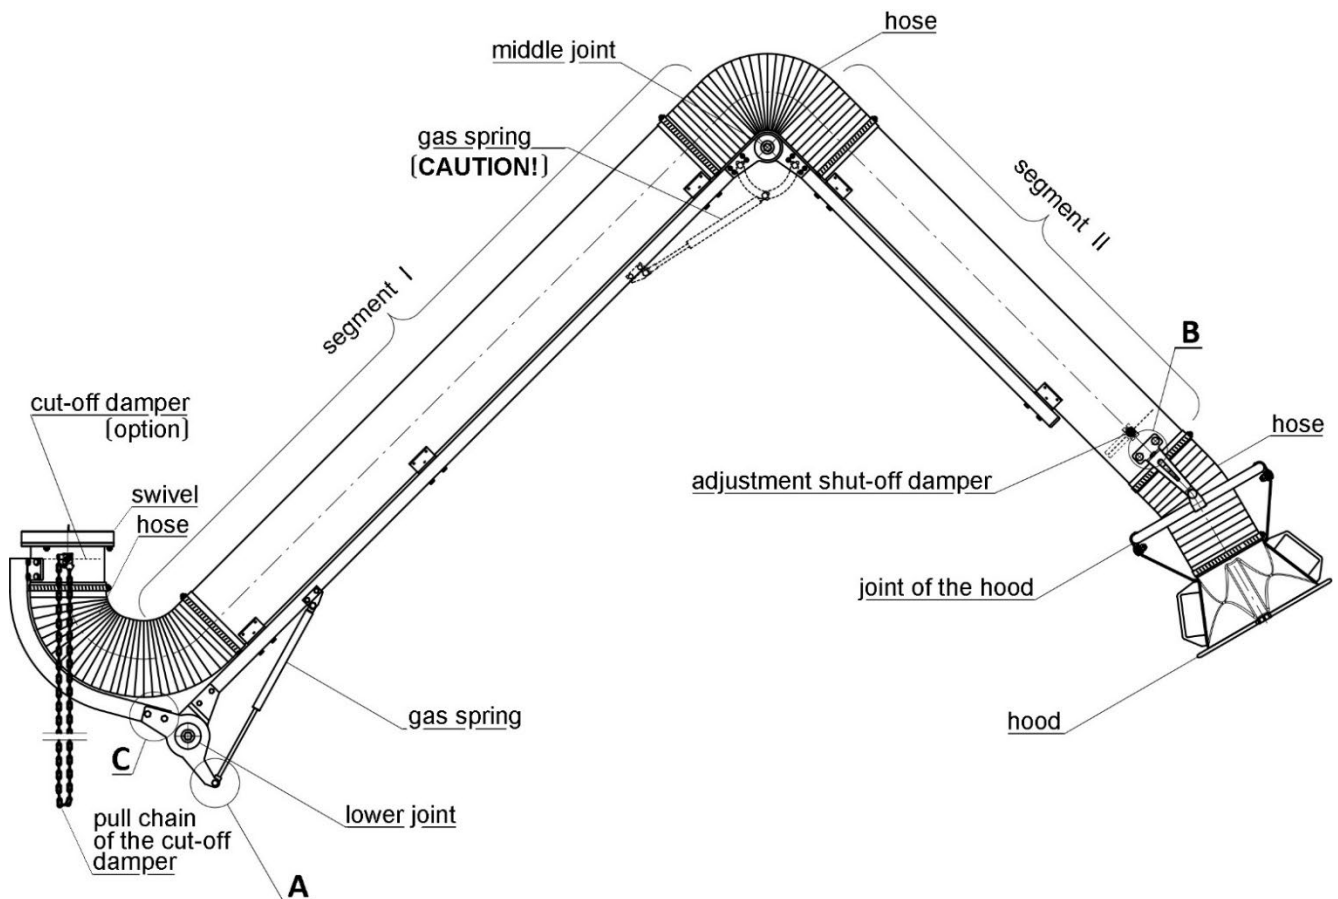

Fig. No.5
3. Screw up the swivel support, to the plate of the lower joint – according to the information in Fig. No.5 Detail “C”.